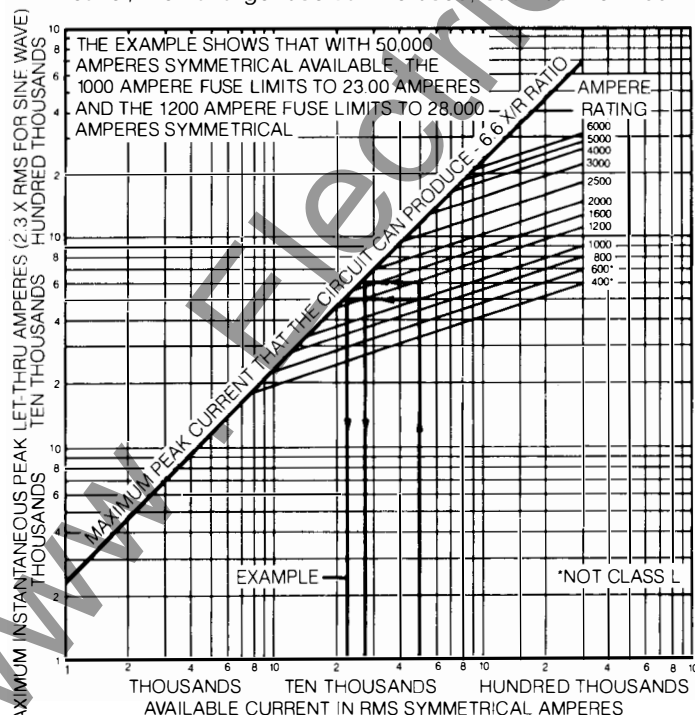

Figure 40. Fuse Peak Left-Thru Characteristic.
2. When used to protect downstream equipment, the fuse must limit the fault to less than the rating of the protected equipment. This can be checked using the "Let-Thru" chart, Figure 40, which contains an example of the limiting effect of the fuse.